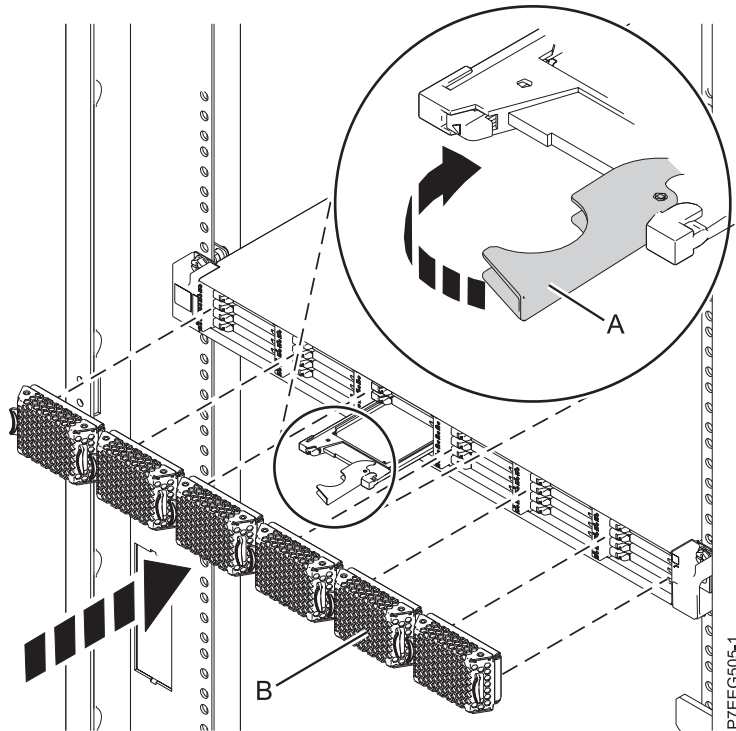

Figure 54. Replacing a solid-state drive in the 5888 PCIe storage enclosure.
3. Rotate the handle (A) to the locked position, as shown in Figure 54 on page 83.